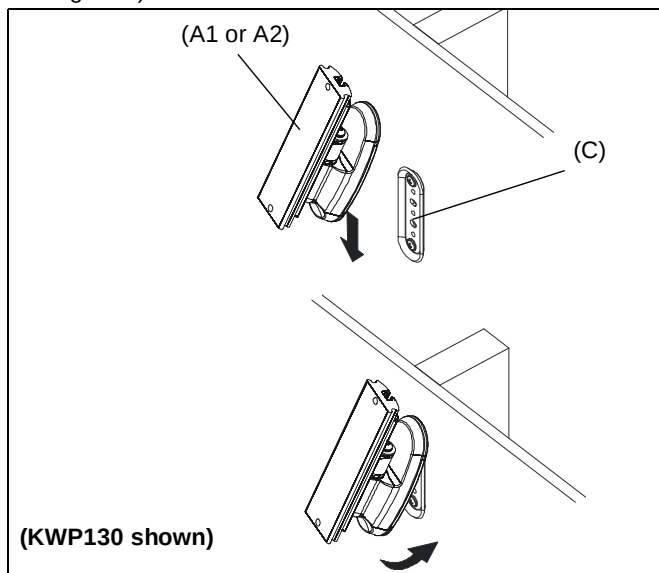

Figure 2
4. Insert top of mount (A1 or A2) over lip on top of bracket (C). Swing mount (A1 or A2) down flush against wall. (See Figure 2)